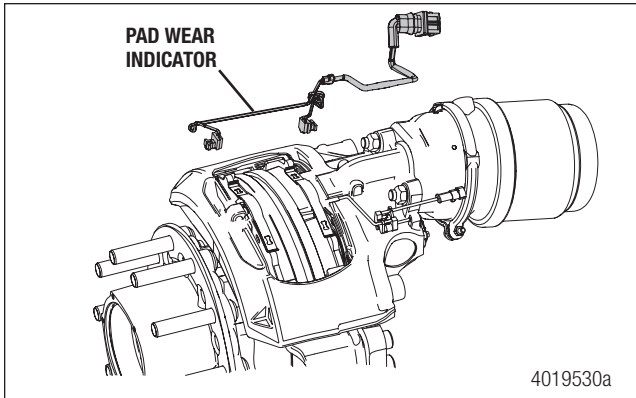

Figure 5
8. If equipped, remove the pad wear indicator assembly from the pad and set aside. Use care when removing the wear sensors to avoid damage. The pad wear indicator assembly can be reused if it is not damaged or worn through the pad. Disconnect the wear sensor harness. Replace if the sensor is damaged or wear shows contact with the rotor. Figure 5.